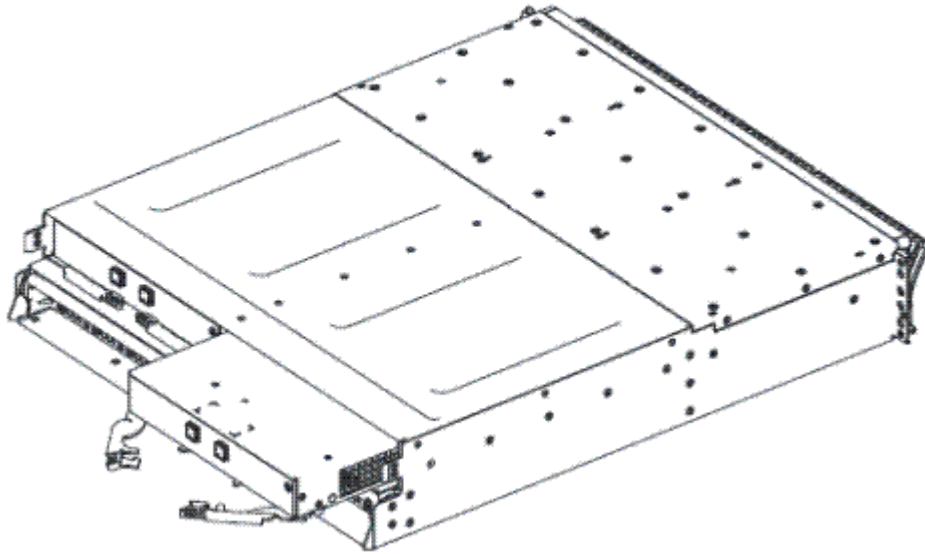

Figure 104. Removing and replacing the IBM Storage FlashSystem expansion canister
6. Open the two release levers as shown in Figure 104 on page 162.